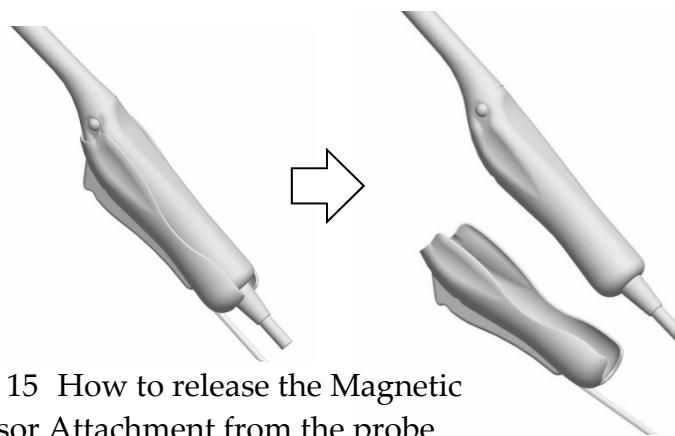

Fig. 15 How to release the Magnetic Sensor Attachment from the probe
- 1) Detach the Magnetic sensor attachment from the probe as shown Fig. 15.